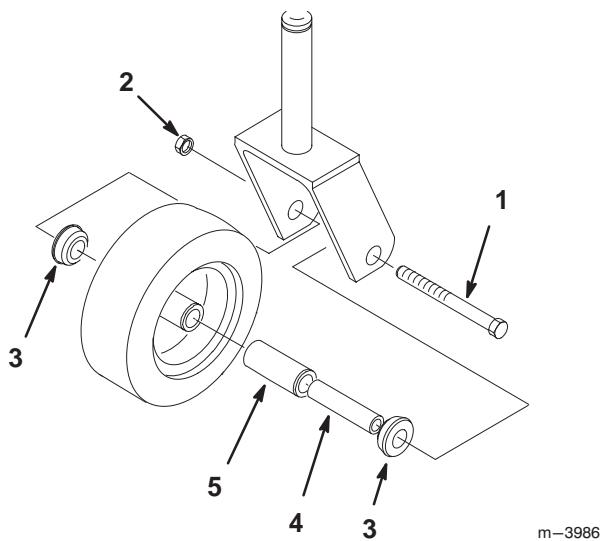

Figure 61
1. Remove the locknut and wheel bolt holding the castor wheel to the castor fork (Fig. 61).
2. Remove one bushing, then pull the spanner bushing and roller bearing out of the wheel hub (Fig. 61).
3. Remove the other bushing from the wheel hub and clean any grease and dirt from the wheel hub (Fig. 61).
- Inspect the roller bearing, bushings, spanner bushing and inside of the wheel hub for wear. Replace any defective or worn parts (Fig. 61).
- To assemble, place one (1) bushing into the wheel hub. Grease the roller bearing and spanner bushing and slide them into the wheel hub. Place the second bushing into the wheel hub (Fig. 61).
- Install the castor wheel into the castor fork and secure with the wheel bolt and locknut. Tighten the locknut until the spanner bushing bottoms against the inside of the castor forks (Fig. 61).